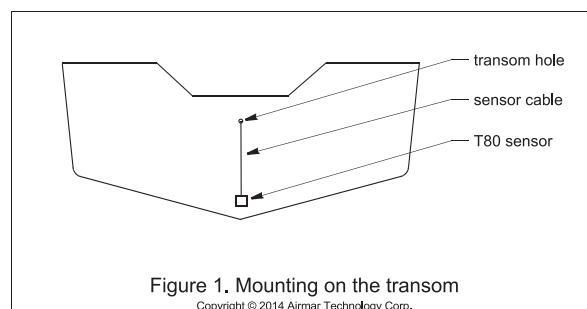

Figure 1. Mounting on the transom
1. Remove the hull nut (see Figure 1).
2. Push the sensor into the mounting hole using a twisting motion to squeeze out excess marine sealant (see Figure 1).
CAUTION: Mount the sensor as close to the centerline (keel) of the boat as possible to ensure the sensor remains in the water when the boat is turning (see Figure 1).